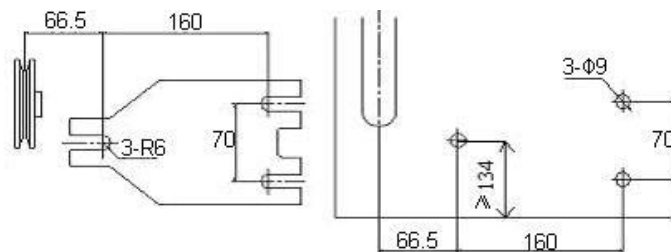

Fig. 2
Step 1: Install the lifting bolts, if the board of the sewing machine has no positioning holes, drill the hole as shown in Fig.2, and Install the lifting bolt into the hole.